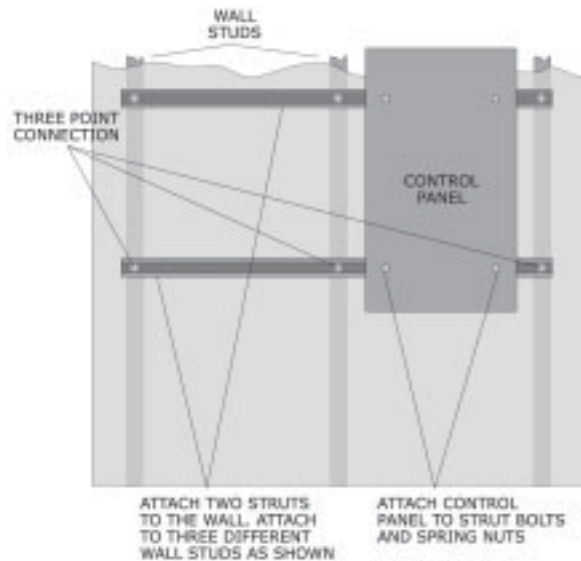

Figure 157: Direct attachment of a strut assembly support to wall.
- Walls with wall anchors as shown in Figure 157 (page 142).
- To attach strut to wall studs, see Figure 157 (above).